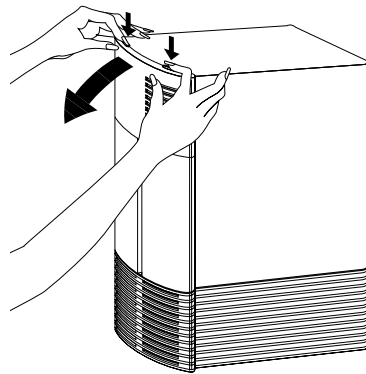

Figure 6-14 Removing the Plastic Cover of the Indigo Chassis
- Press down on the tabs and pull the panel away from the chassis, as shown in Figure 6-14.